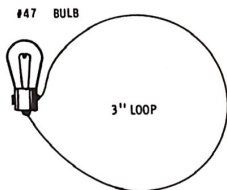

Fig. 1-29. Construction details of the pickup loop.
1. Make up a pick-up loop with a #47 lamp as shown in Fig. 1-29.